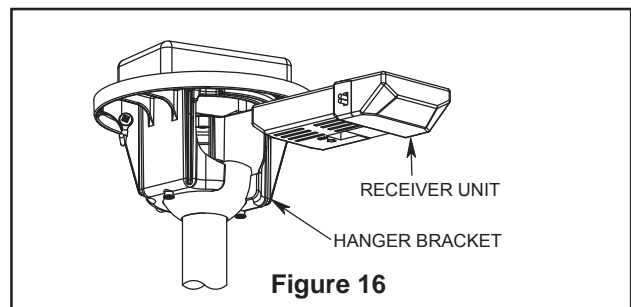

Figure 16
4. Connect green wires from hanger bracket and hanger ball to bare (ground) wire using wire connector supplied. Connect black wire from receiver unit marked "AC IN L" to black supply wire using wire connector supplied. Connect white wire from receiver unit marked "AC IN N" to white supply wire using wire connector supplied. Connect white wire from receiver unit marked "TO MOTOR N" to white wire from fan using wire connector supplied with receiver. Connect black wire from receiver unit marked "TO MOTOR L" to black wire from fan using wire connector supplied. Lastly, connect blue wire from receiver to the blue fan light wire using wire connector supplied. Position all connected wires and receiver antenna to allow installation of ceiling canopy (Figure 16).